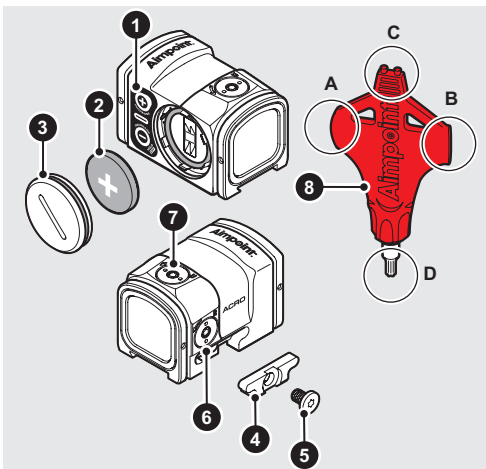

Fig. 1 Overview
- c Insert battery (2) with the positive end (+) toward the battery cap (3) as seen in Fig. 1.
**CAUTION:** Check that the o-ring on the battery cap (3) is in position and in good condition to ensure there is no water leakage into the battery compartment.
- d Tighten the battery cap (3) with the Aimpoint tool (8B). When resistance is encountered, proceed to tighten until the battery cap (3) is fully tightened.
To install the sight to an interface compatible with the integrated mount shown in Fig. 1, follow the described procedure: